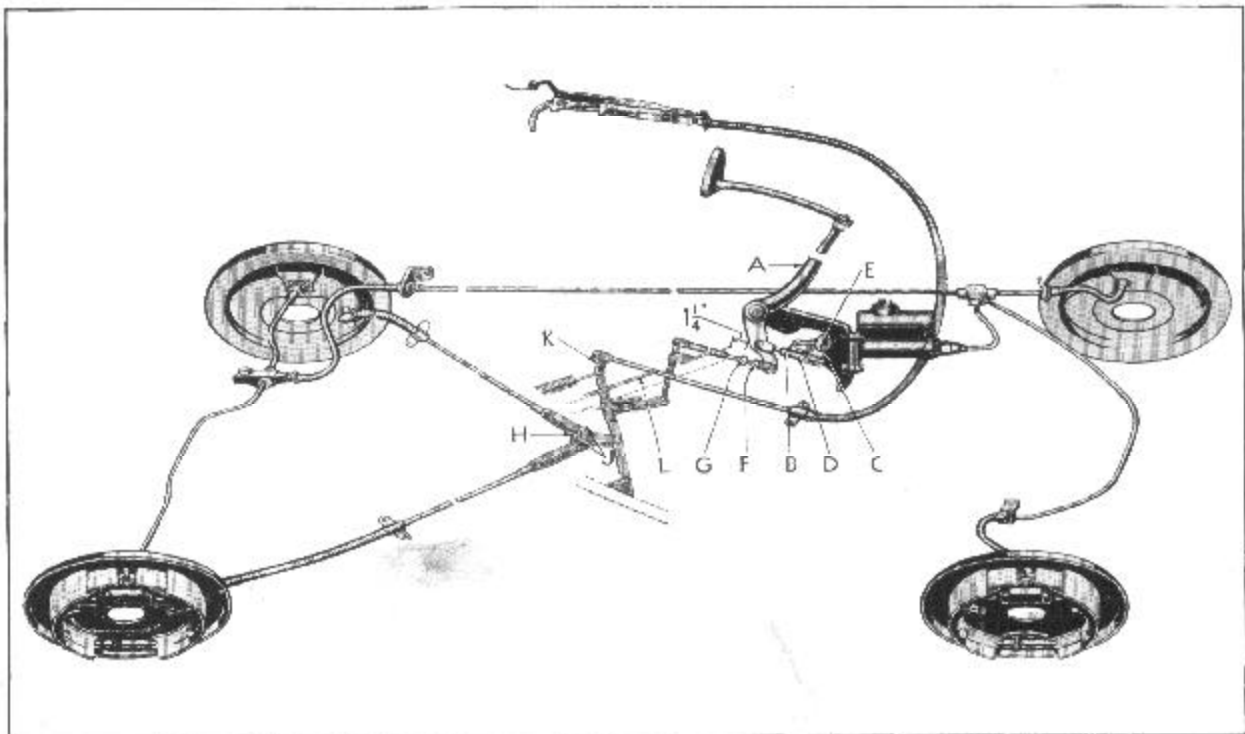

Figure 1
To insure full return of the master cylinder piston when the brake is released, there must be 1/4" clearance between the pedal shank (A), Figure 1, and the floor board. If the pedal shank clearance in the fully released position is other than the above mentioned 1/4", it should be adjusted as follows:
1. Loosen the adjustable pull rod lock nut (B), Figure 1, on the pull rod assembly.
1. With the master cylinder operating lever (E), Figure 1, against the stop, loosen the brake pedal push rod adjusting end lock nut (F).
2. Turn the rod (G) until the rear face of the hex is 1k" from the front end of the pedal push rod.
3. Tighten lock nut (F) securely.